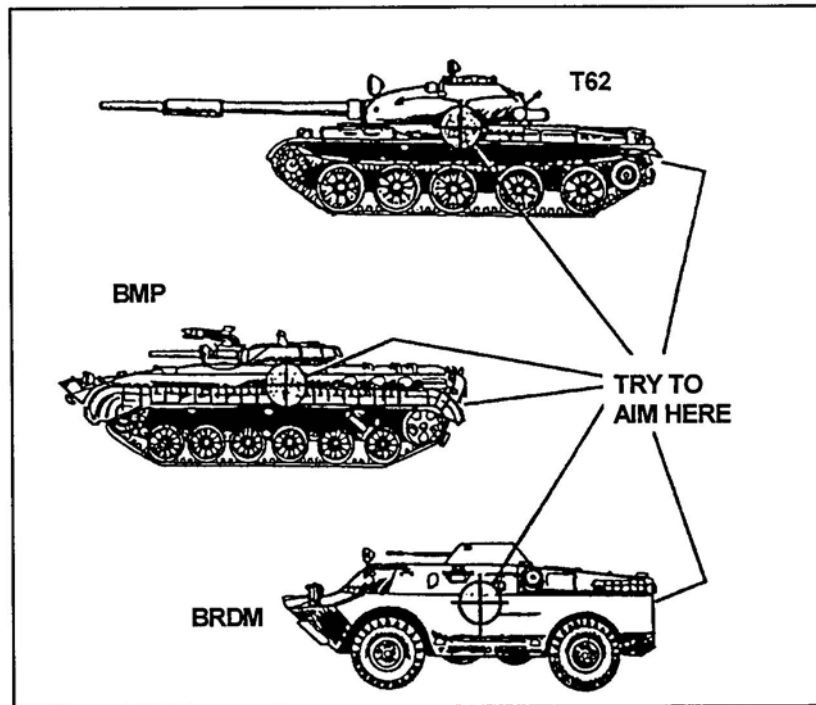

Figure 11. Vulnerable Points on an Armored Vehicle
- b. Gunners should try to engage the armored vehicle's weak points, which are the sides and the rear (Figure 11).